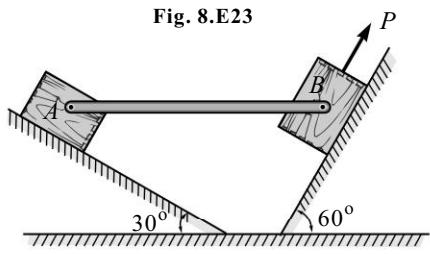

Fig. 8.E24
25. Refer to Fig. 8.E25, where a 8.15 kg block is attached to link *AB* and rests on a moving belt. Knowing that $\mu_s = 0.25$ and $\mu_k = 0.20$, determine the magnitude of the horizontal force P which should be applied to the belt to maintain its motion (a) to the right, (b) and to the left.